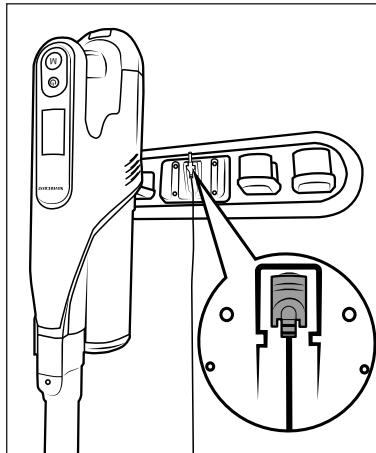

Fig. 6
- ◆ Place the vacuum cleaner in the wall bracket **18** from above so that the barrel plug **11** slips into the charging socket **3** on the bottom of the appliance. The battery indicator **28** starts flashing and the charging process starts (see Fig. 6 and 7).